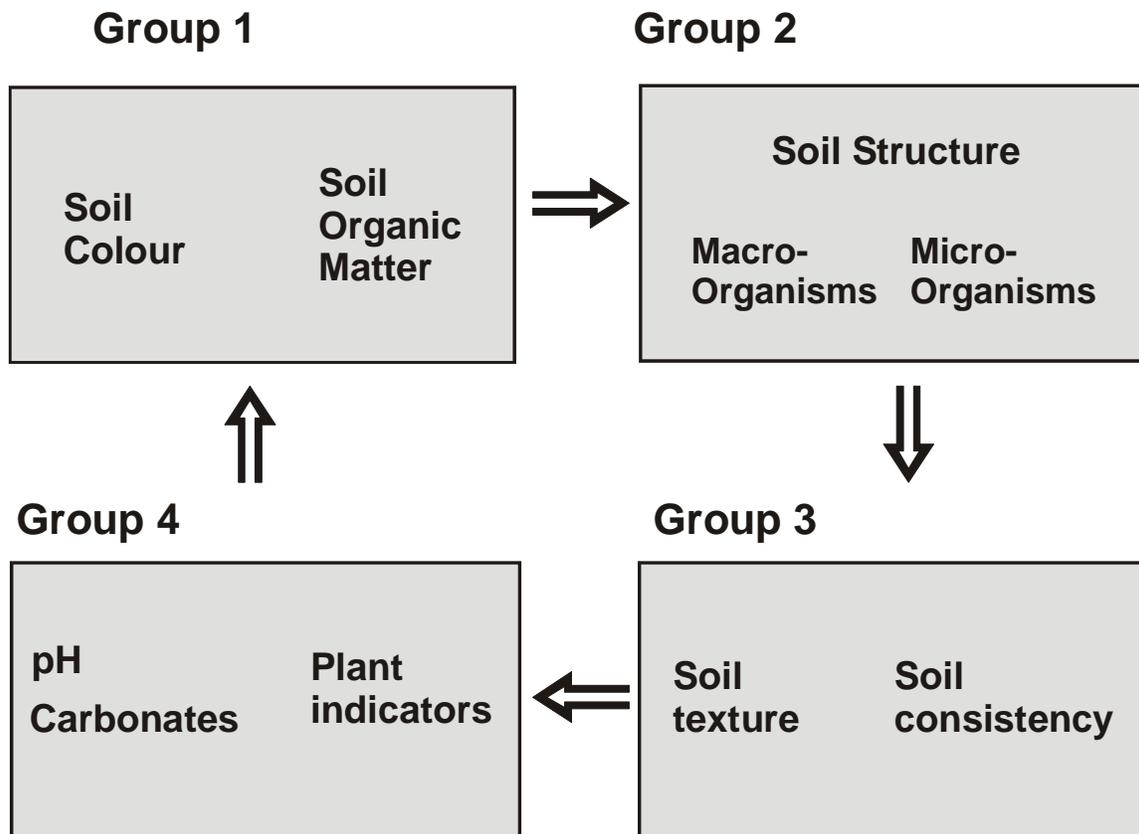

Fig. 6.3 Outline of the tables for the Soils Fair
7. After completing the practicals for that Group, the trainees are to pass to the next Group until all four Groups have been completed (Fig. 6.3).